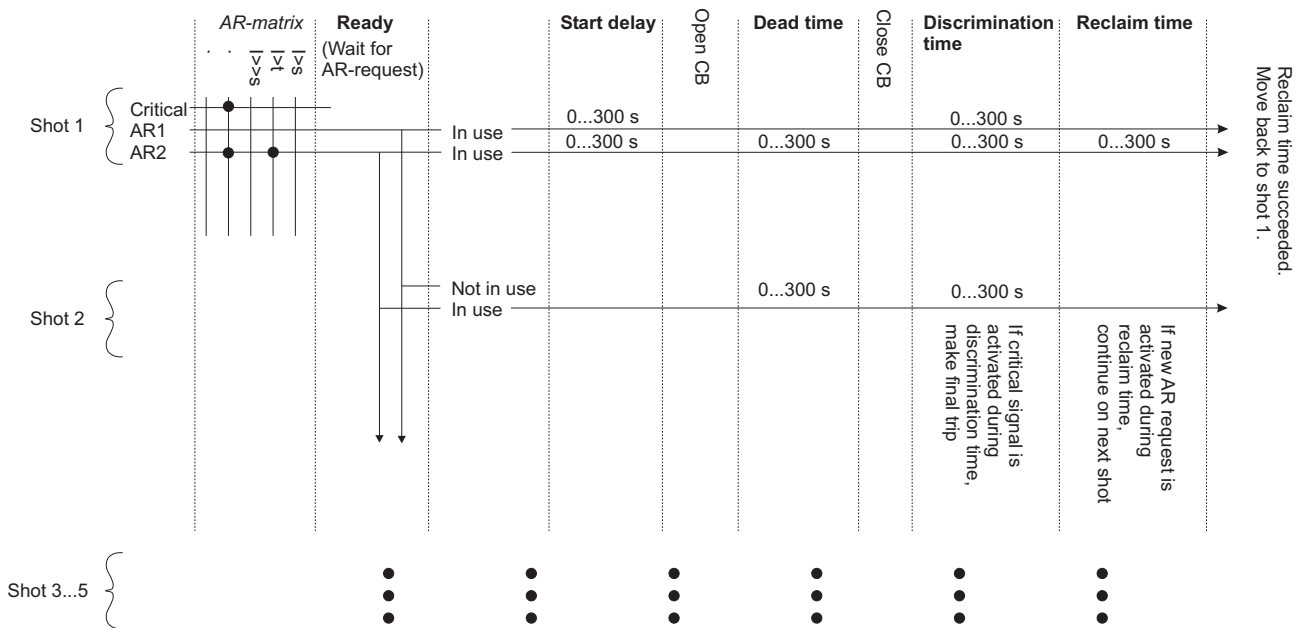

Figure 8.6: Auto-reclose matrix
The auto-reclose (AR) matrix in the following Figure 8.6 describes the start and trip signals forwarded to the auto-reclose function.